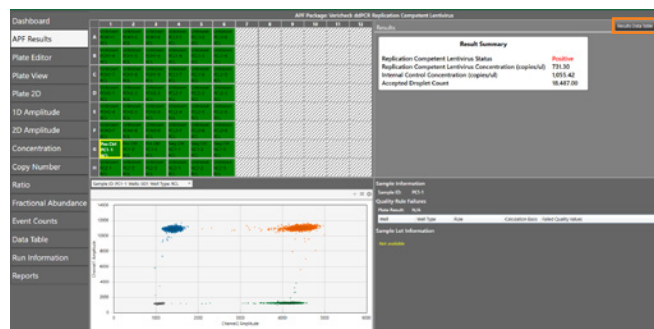

Fig. 9. APF Results tab showing results for a positive control well. Orange rectangle shows the Results Data Table button.
1. Navigate to the APF Results tab in QX Manager Software and select a well to view the APF Result Summary for that well (Figure 9).
2. The results for all wells can be viewed together by clicking Results Data Table in the upper right corner of the screen (Figure 9, orange rectangle). All concentration values in the Results Data Table are given in copies/μl of the final 1x ddPCR reaction.